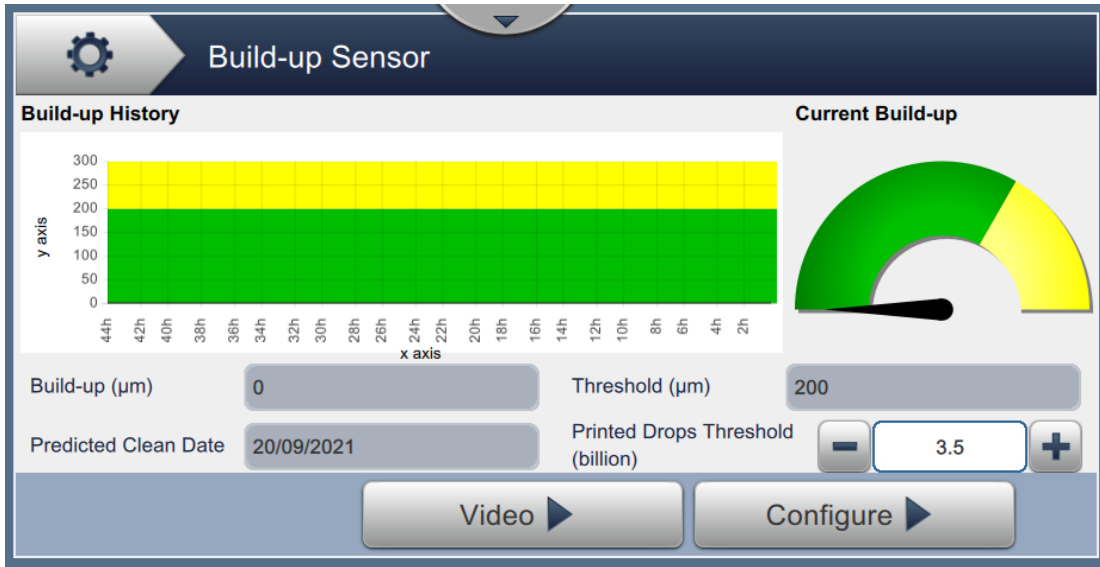

Figure 6-26: Ink Build-up Sensor
1. Touch the  button from the Tools screen. The Ink Build-up Sensor screen opens as shown in the Figure 6-26.